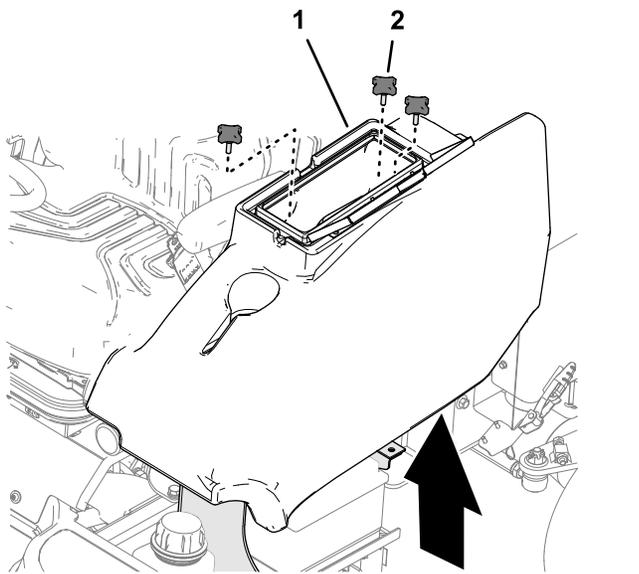

Figure 53
- At the left side of the operator's platform, open the door of the storage compartment (Figure 53).
- Remove the 3 knobs that secure the storage compartment to the machine, and remove the compartment (Figure 53).